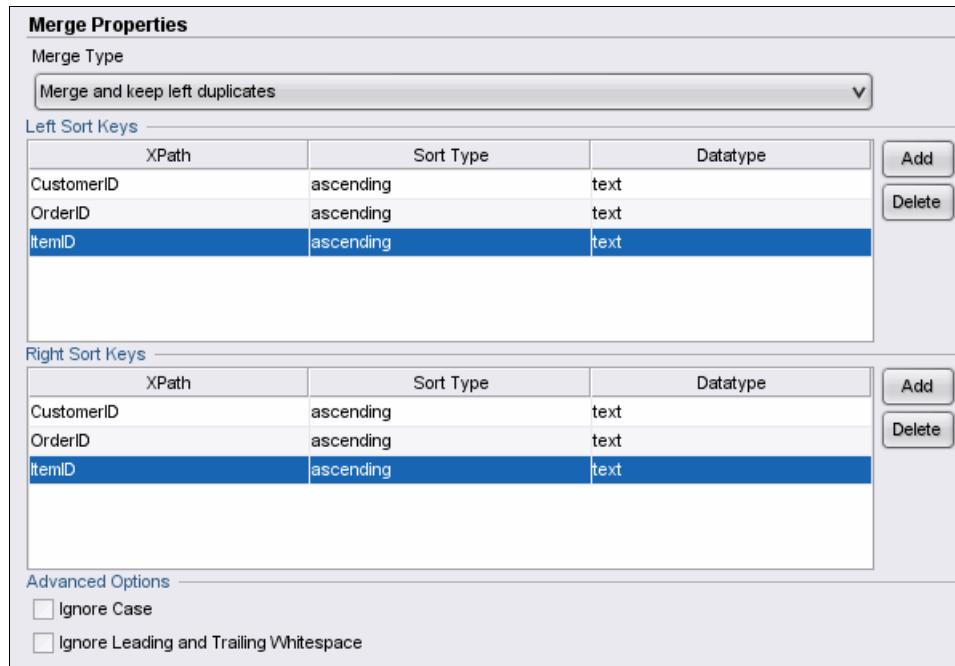

Figure 12-61 Merge Properties configured with three keys
- d. Repeat the same steps for the Right Sort Keys table. The final result is presented in Figure 12-61.